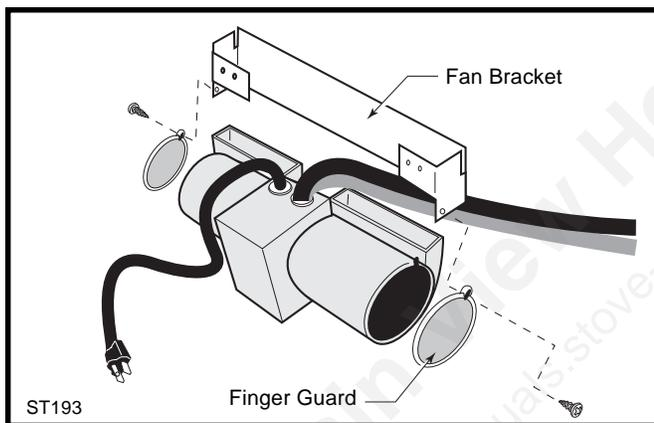

Fig. 12 Attach the fan assembly to the fan bracket.
- Remove the sheet metal screws that secure the finger guards at each end of the fan housing. Use these screws to attach the fan to the bracket. (Fig. 12)